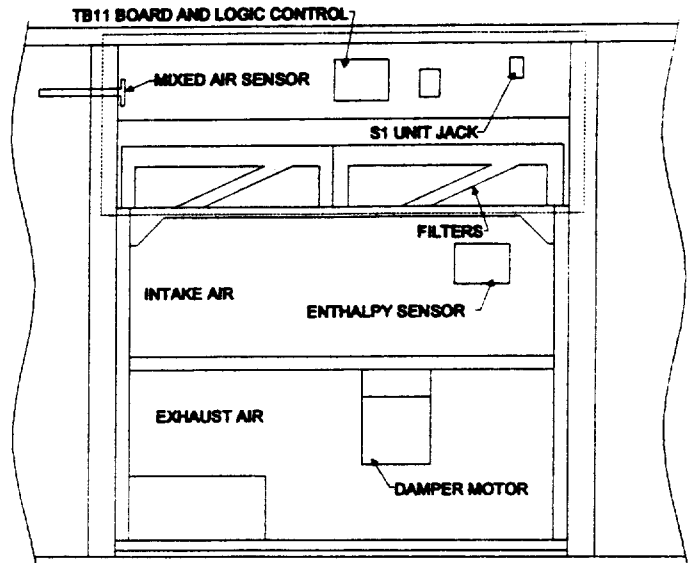

FIGURE 3
- 7—Position logic control board in filter access area as shown in Figure 3. Secure control board with two #10—16 x 1/2 screws with two #10—16 x 1/2 screws.
- 8—Insert mixed air sensor tube through the mounting hole into the supply air compartment. Secure using two #10—16 x 1/2 screws. See Figure 3.